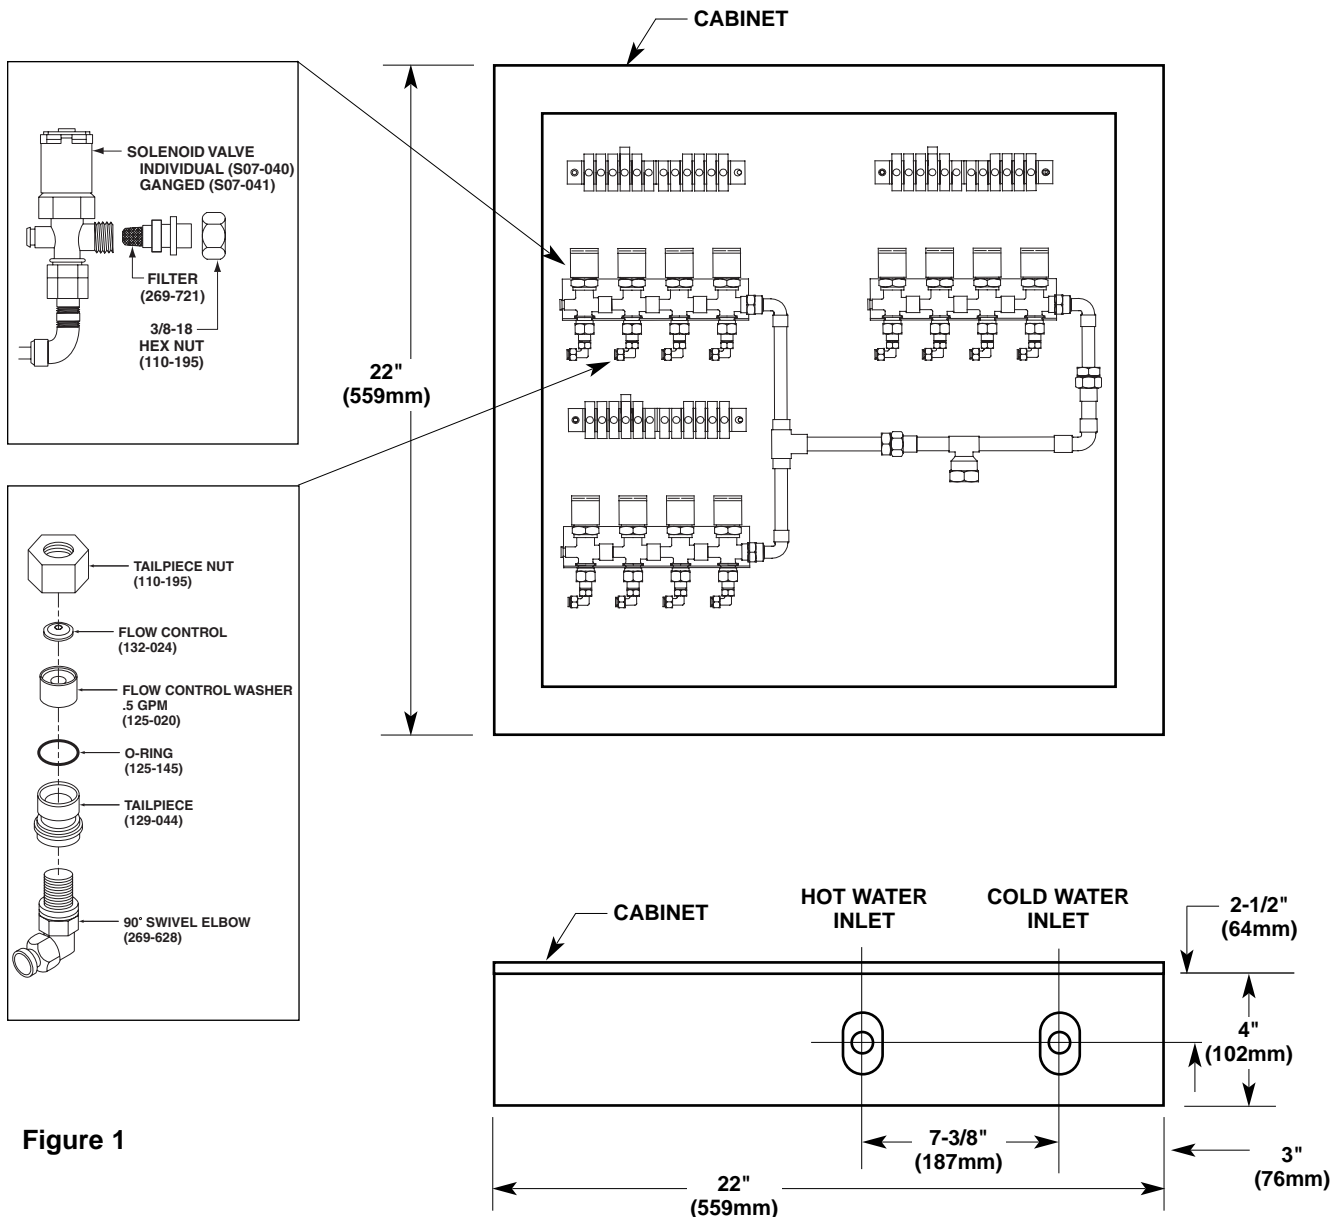
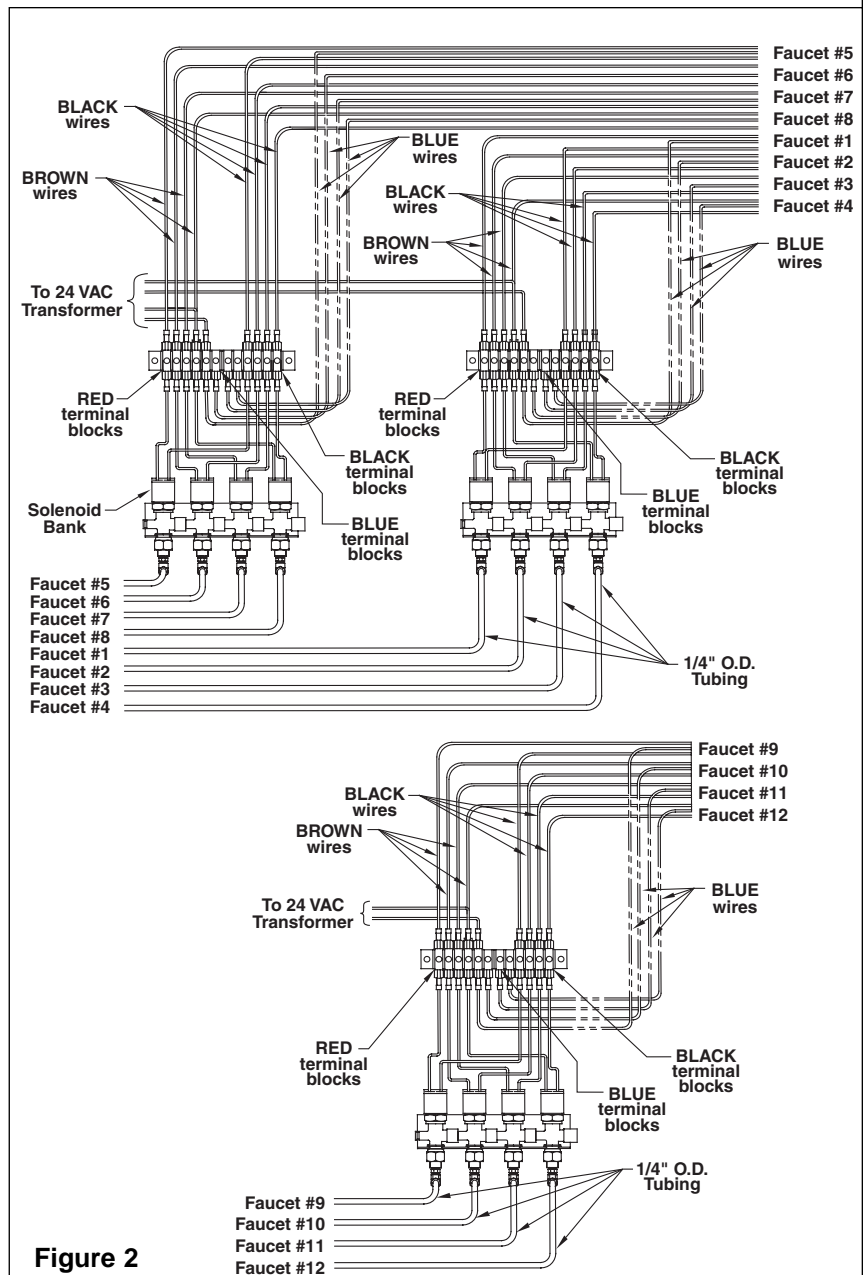

Figure 1
Figure 2
2. Rough-in hot and cold 1/2" NPT water supply to the cabinet's thermostatic mixing valve location (see Figure 1 for dimensions).
4. Make 1/2" NPT supply connections to the thermostatic mixing valve (piping and fittings supplied by installer) (see Figure 1).
NOTE: Refer to Figure 2 for 900 Series Futura faucets when replacing tubing and wiring connections. Figure 1 on page 2 illustrates components that are pre-wired and provided with the cabinet. Additional wire and tubing supplied by installer.
IMPORTANT: When making electrical connections, ensure each faucet is wired to the terminal block connected to the matching solenoid valve as shown in Figure 2.